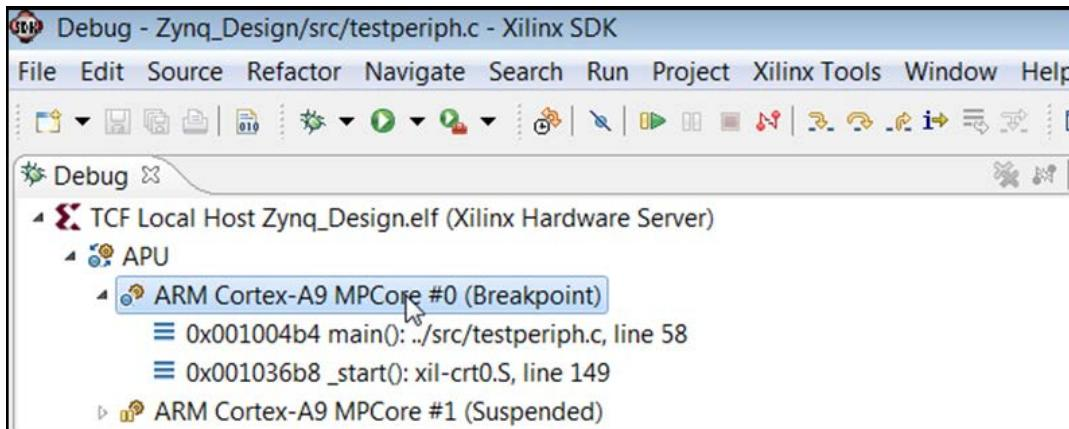

Figure 59: Processor Core to Debug
10. In the Debug tab, expand the tree, and select the processor core on which the program is to be run (Figure 59).